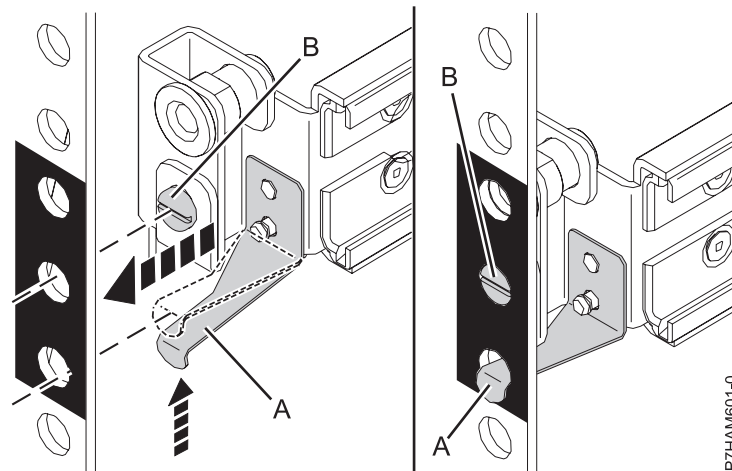

Figure 8. Mounting the rail to the front of the rack
- The tension clip (A) points toward the front of the rack and aligns with the bottom EIA hole that you marked previously, as shown in Figure 8.
- c. Push up the tension clip (A) and insert it into the bottom EIA hole that you marked previously, as shown in Figure 8. Ensure that the lip of the clip is brought fully through the hole and clasped against the bottom of the hole. Seat the alignment screw (B) in the middle EIA hole that you marked previously.
**Note:** There are two sizes of alignment screws (B). If your rack has round mounting holes, use the smaller alignment screw for each rail. If your rack has square mounting holes, use the larger alignment screw for each rail. Alignment screws are provided with the rack installation kit.